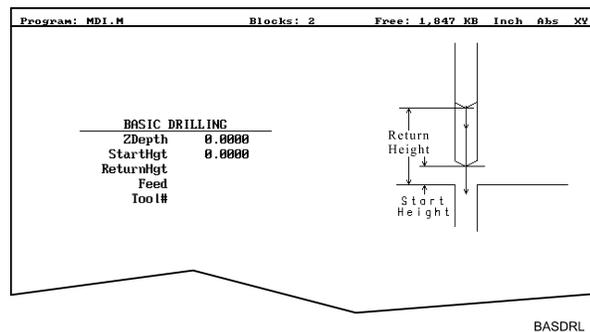

Figure 5-1, BASIC DRILLING Graphic Menu
2. Highlight **Basic**, and press **ENTER** to display the **BASIC DRILLING** Graphic Menu. Refer to **Figure 5-1**.